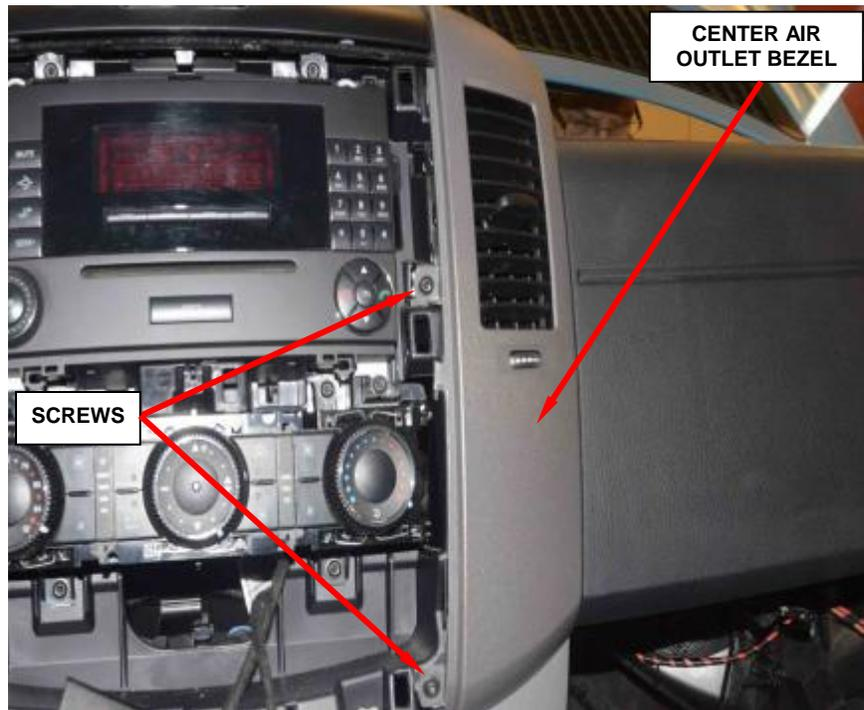

Figure 9 – Center Air Outlet Bezel
12. Remove and save the two center air outlet bezel screws and remove the bezel (Figure 9).
27. Position the center air outlet bezel to the instrument panel and install the two screws. Tighten the screws securely (Figure 9).